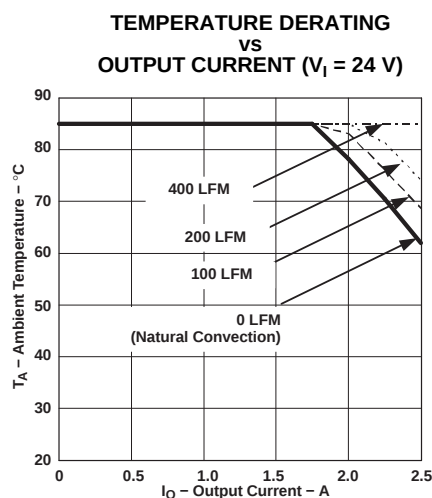

Figure 19.
- (8) The temperature derating curves represent operating conditions at which internal components are at or below manufacturer's maximum rated operating temperature. Derating limits apply to modules soldered directly to a 100-mm × 100-mm, double-sided PCB with 2 oz. copper. Applies to Figure 19.